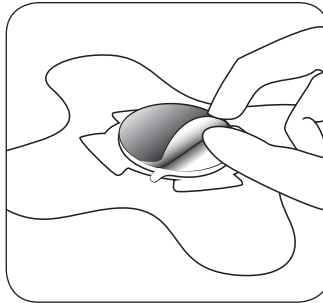

figure 9A: Removing Foil Seal
- A. Remove the circular seal from the top of the bandage to reveal the coupling media within the gel cup (Figure 9A).